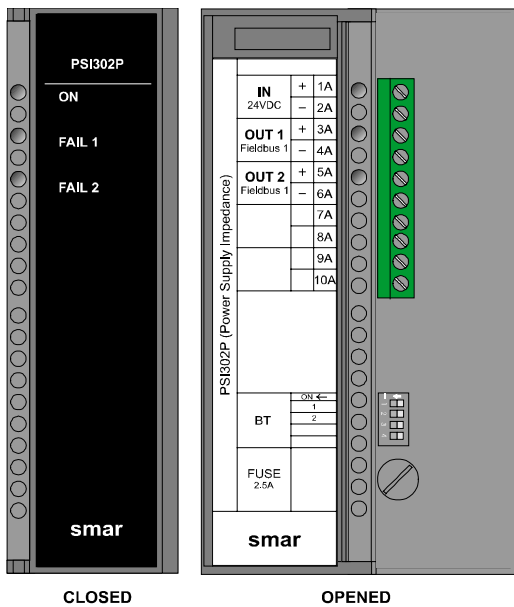

Fig 3 – Frontal View PSI302P-2
The overcurrent indication LED is red and it must be energized only in case of overcurrent caused by a short circuit in the plant or by an excessive number of connected devices. Figure 3 and 4 shows a layout of device **PSI302P**.
**PSI302P-2:** Four terminals (3A to 6A) to implementation of 2 independent Fieldbus channels and a Dip Switch with 2 switches for interlinked of the internal terminator of the **PSI302P-2**. The *Figure 3* shows a layout of device; to verify that 2 Leds of flaw exists, one for each **PSI302P**.
**Obs:** So much for the model **PSI302P-2** as for the **PSI302P-4**, the terminals and Dip Switch they are the same, even so for the model PSI302-2 only the connections are enabled for 2 channels. The key 1 in the position ON enables the internal terminator (BT302) for the channel 1.